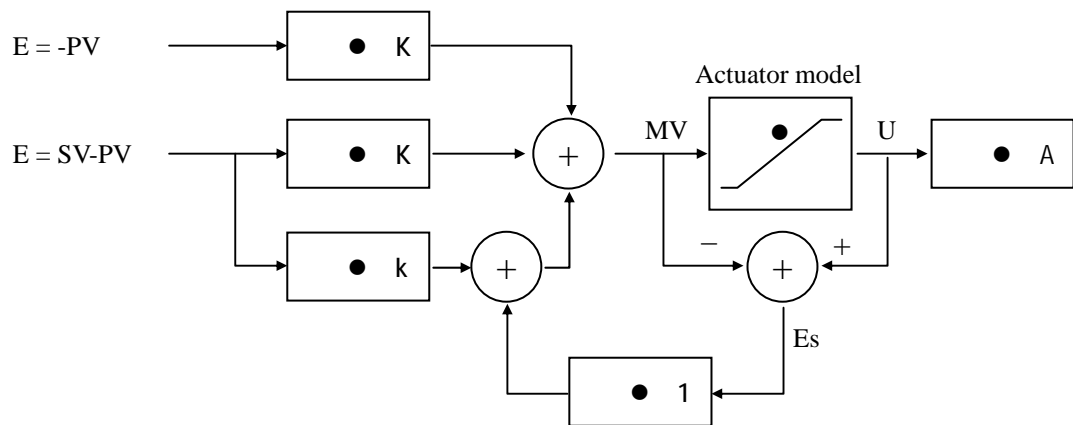
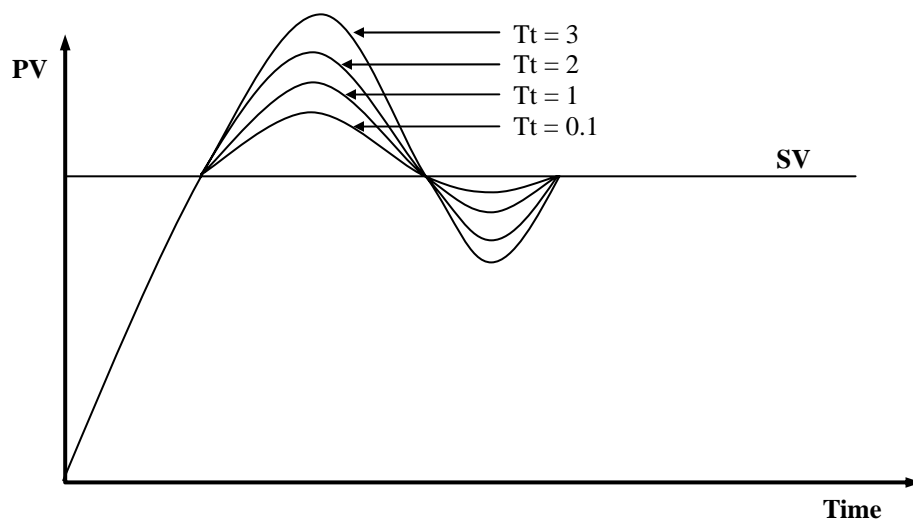

Fig. 2-13 The block diagram of anti-windup control system
Fig. 2-14 The PV output characteristics with different T_t values.
another feedback system to actuator, and using the model of actuator. The Fig. 2-13 shows the block diagram of the anti-windup control system using the actuator model.
As shown in the Fig. 2-13, the anti-windup system feedback the multiplication of gain $(1/T_t)$ and E_s to the input of integral term. The E_s is obtained as the difference value between actuator output (U) and manipulation value of PID controller (MV). The T_t of the feedback gain is tracking time constant, and it is in inverse proportion with the resetting speed of integral term. Smaller T_t will cancel the windup of actuator faster, but too small T_t can cause anti-windup operation in derivative operation. The Fig. 2-14 shows several T_t value and PV in the PI control system.